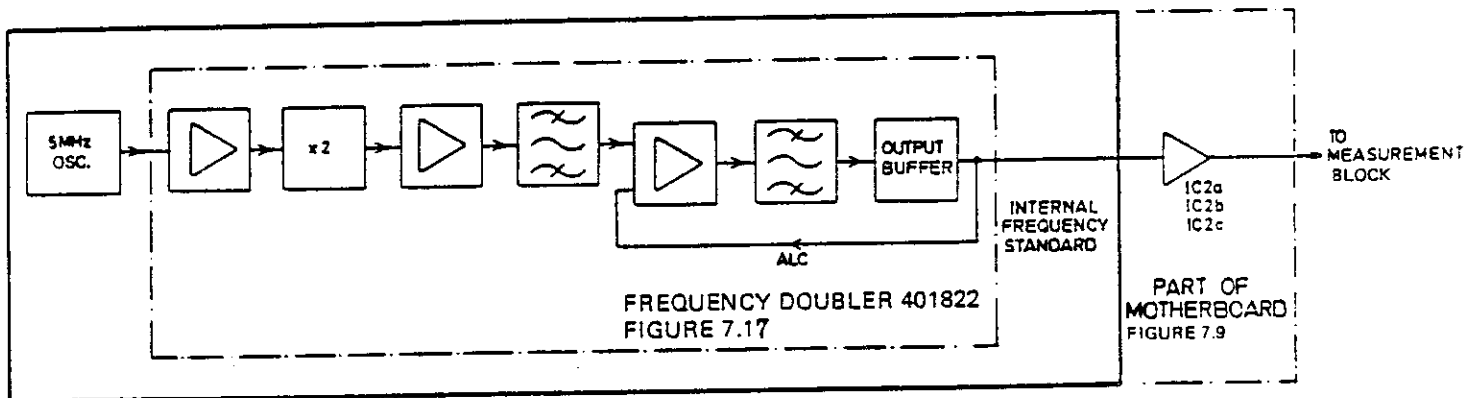

Figure 5.11 - Internal Frequency Standard Block Diagram
5.3.9.1.1 The internal frequency standard consists of a 5 MHz oscillator and a frequency doubler. A block diagram of the internal frequency standard is shown in Figure 5.11.